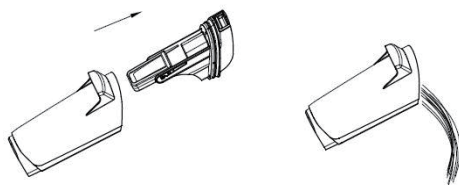

Fig.17
2. Remove the lid of dirty water tank and then empty the dirty water tank (see Fig.17).